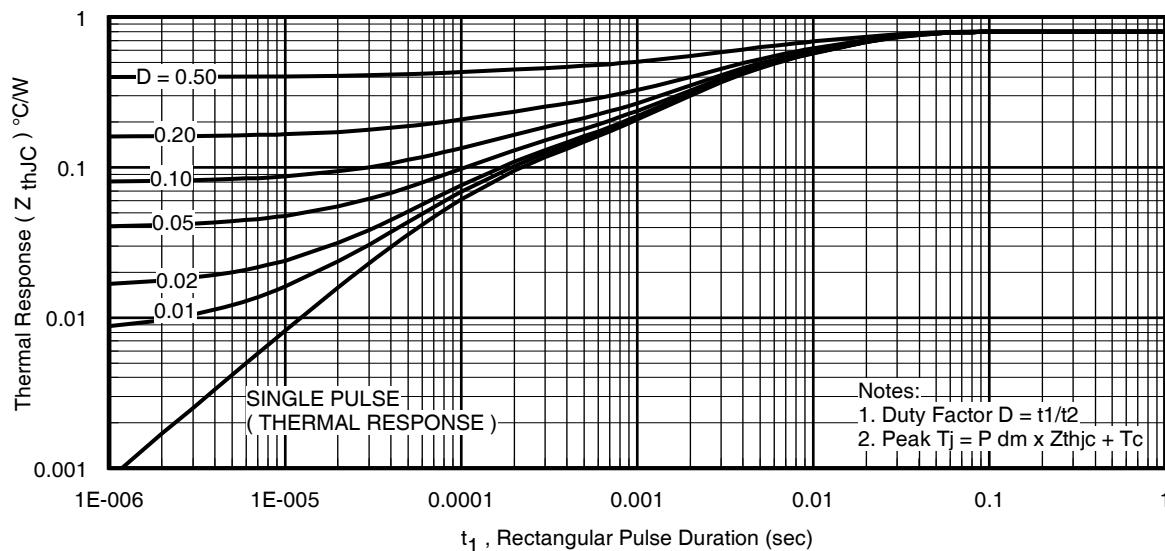

Fig 14. Maximum Effective Transient Thermal Impedance, Junction-to-Case
Notes on Repetitive Avalanche Curves , Figures 14, 15: (For further info, see AN-1005 at www.irf.com)
7. ΔT = Allowable rise in junction temperature, not to exceed T_{jmax} (assumed as $25^{\circ}C$ in Figure 14, 15).